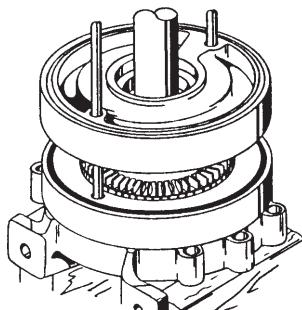

Figure 4-6
7. Slide a right hand channel ring (#9B) onto the guide rods with the water channel facing downward, toward the impeller.(refer to figure 4-6) The small outlet opening should be in the "one o'clock" position. This completes one stage; a stage consisting of one left hand channel ring (#10B), a right hand channel ring (#9B), and an impeller (#11B) between them.